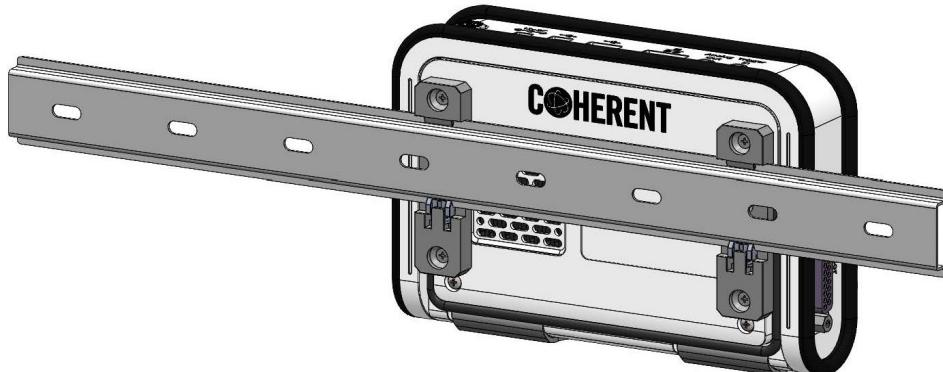

Figure 3-10. Attach the Mount Brackets to DIN Rails
6. To install, slide the lower edge of the brackets onto the lower edge of the DIN rail, and snap the meter up to engage the top of the brackets, as shown in Figure 3-10.